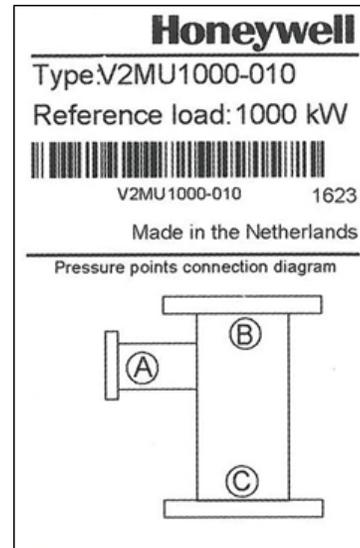

Fig. 1. Pressure pickup point connections on label..
8. Create the tubing connections between the Mixing Unit and the SV2 Series gas valve. Connect "A" to "A", "B" to "B" and "C" to "C". Refer to Fig. 1.